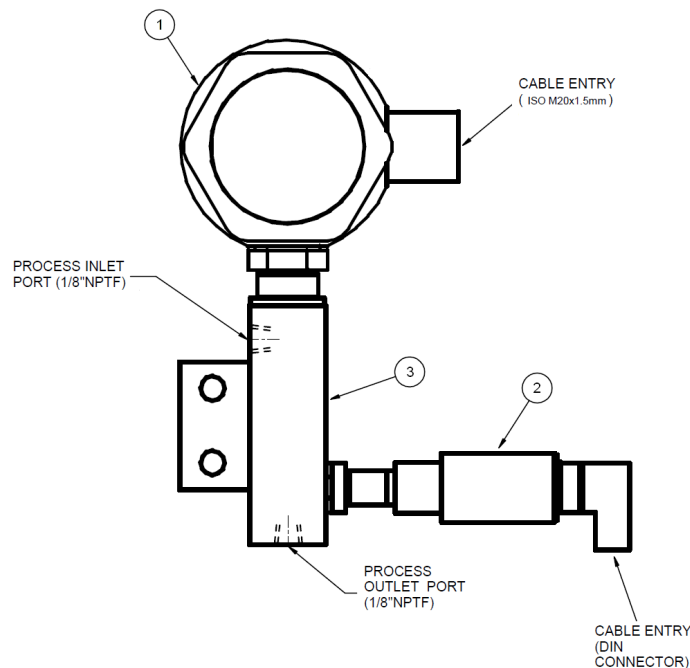

Figure 6 *Promet I.S. Sensor Assembly*
- c. Sample gas connections are made via the gas inlet and gas outlet ports as shown in *Figure 6*. Both the gas inlet and outlet port are 1/8" NPT female ports. Michell recommends using Swagelok® 6 mm to 1/8" NPT (ordering code SS-6M0-1-2) or 1/4" to 1/8" NPT (ordering code SS-400-1-2) male connectors to connect these two ports to the 6 mm or 1/4" sampling system tubing. Follow standard Swagelok® installation instructions to make the connections.